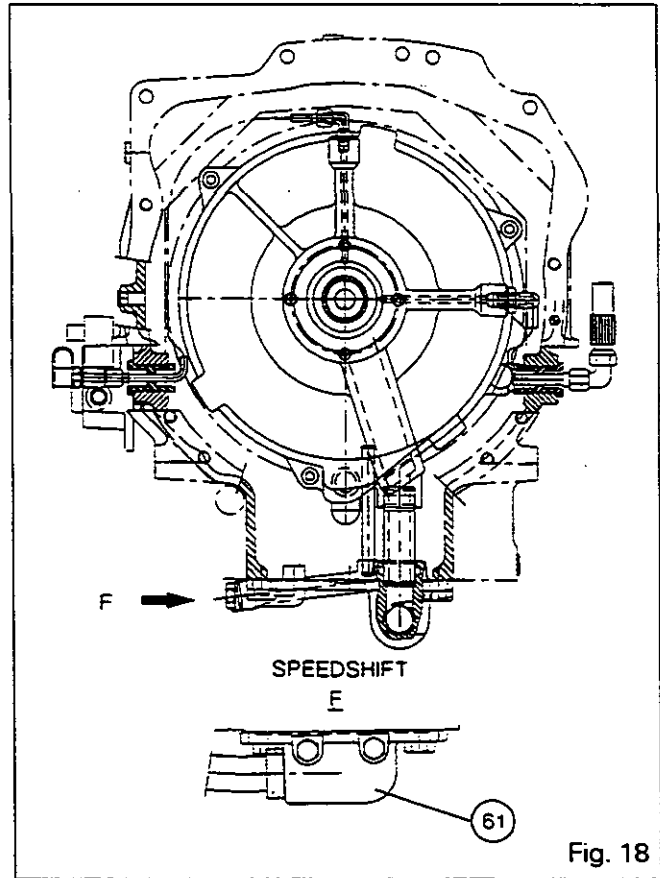

Fig. 18
- Tighten the screws (77) to 25 - 35 Nm.
- Cover (61), Speedshift version (Fig. 18)